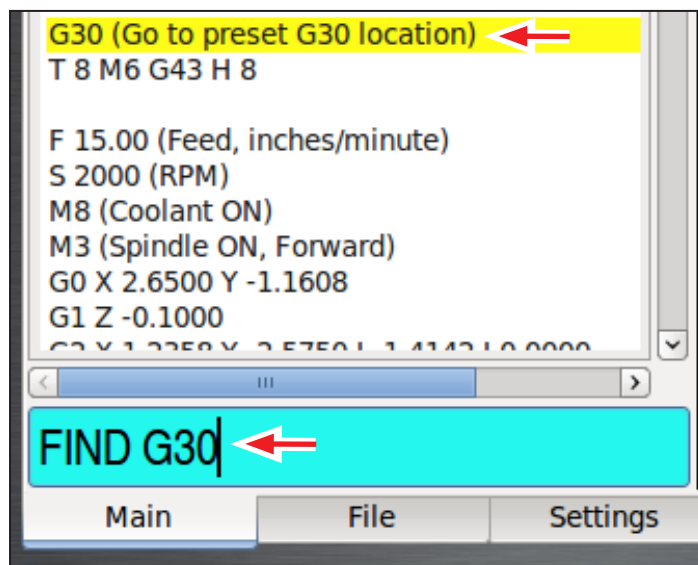

Figure 5.10
MDI has the ability to search text of a G-code file for specific numbers, codes, or items of interest like tools, feeds, and speeds. Type *FIND* followed by the text to be searched in the MDI Line (see **Figure 5.10**). Pressing *Enter* finds the next instance of the searched text; pressing *Enter* while holding down the *Shift* key finds the previous instance. If found, PathPilot scrolls to the line containing the searched text and highlights it in yellow (see **Figure 5.10**). When the search reaches the end of the G-code file, it wraps and starts again from the beginning. Change the starting point of the search by clicking on any line in the G-code window.
5. Click the *Eject* button when you are ready to disconnect the USB drive from the controller (see **Figure 5.10**). Ejecting the USB drive this way helps to avoid corrupting data on the USB drive.